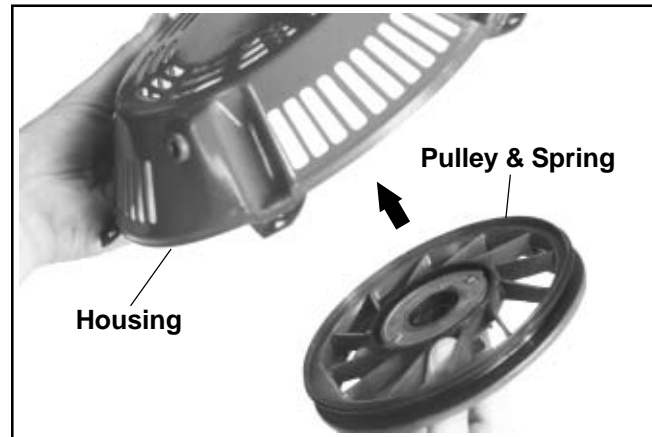

Figure 7-8. Installing Pulley and Spring into Housing.
- Install the pulley assembly into the starter housing. See Figure 7-8. Make sure the pulley is fully seated against the starter housing. Do not wind the pulley and recoil spring at this time.